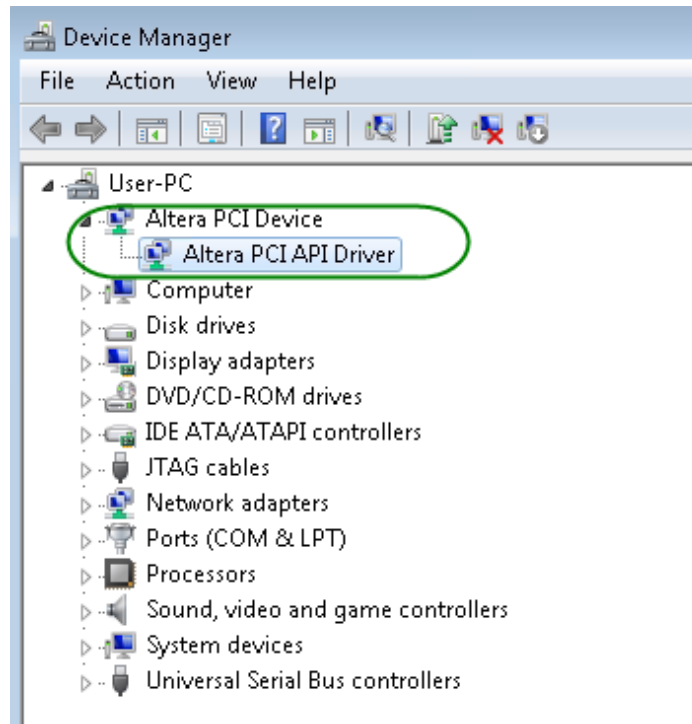

Figure 7-8 Altera PCI API Driver in Device Manager
10. Once the driver is successfully installed, users can see the **Altera PCI API Driver** under the device manager window, as shown in **Figure7-8**.